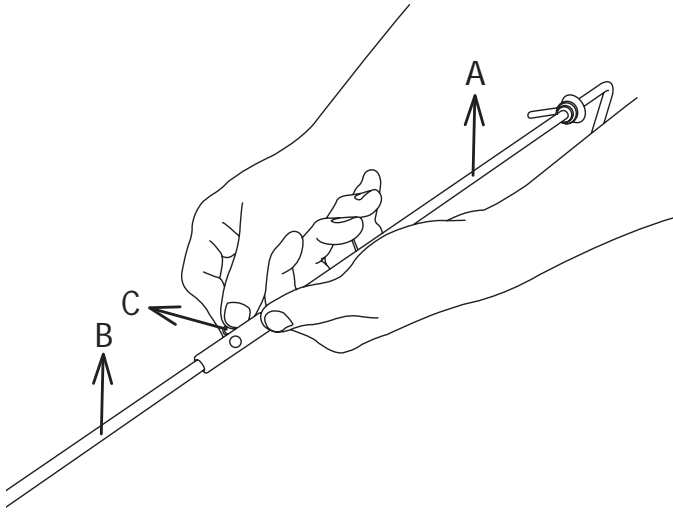

Figure 14
4. Slide the upper chute crank into the lower chute crank, aligning the screw holes. Tighten the screw into the aligned holes using a screwdriver. Fasten the nut with wrench (Figs. 14 and 15).